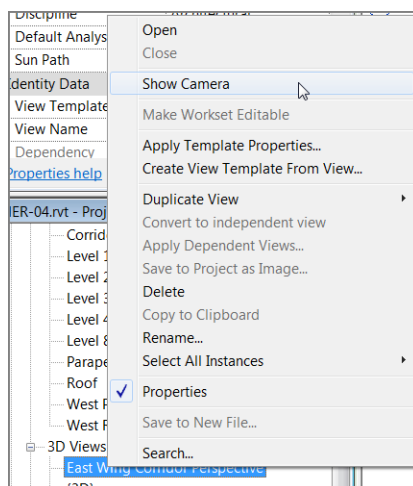

FIGURE 3.72 By finding the view in the Project Browser, you can tell Revit to show the camera in the plan.
2. In the Project Browser, right-click the East Wing Corridor Perspective view in the 3D Views category, and select **Show Camera**, as shown in Figure 3.72.